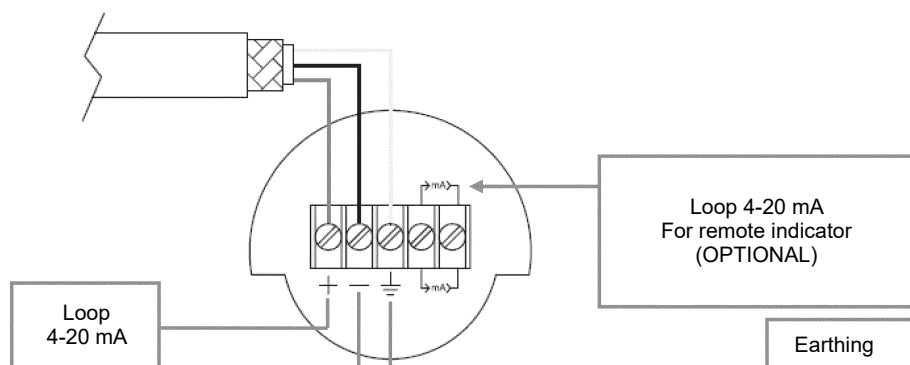

Fig. 6 - Electrical connection of the power cable to the terminal block
Under the rear cap is placed the terminal block reporting the electric polarity (**Fig. 6**). Insert the power supply cable into the enclosure through one of the two threaded openings. Transmitter is protected from accidental inversion of polarity. For a better use is recommended a twisted pair cable (22 AWG min). Avoid placing Transmitter near devices powered in AC or Switching. Connect ground-tap of the Transmitter to the local common earth (PE) as indicated in paragraph Earthing.
In the case where the plant devoid of earthing, it is necessary to connect the earth wire to the terminal block through the cable that carries the signal and the power supply (**Fig. 6**).